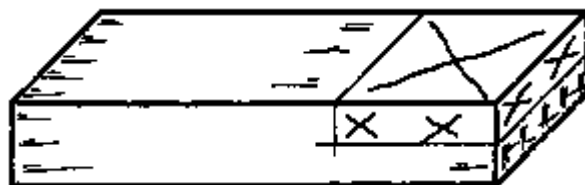

Fig. 2
- Make lines square at the shoulder of the pin, drawing them across the side and halfway down the edges, with a try square and pencil (Fig. 2). Mark the waste.
- Gauge the thickness of the pin around its edges and mark the waste (Fig. 2, previous page).